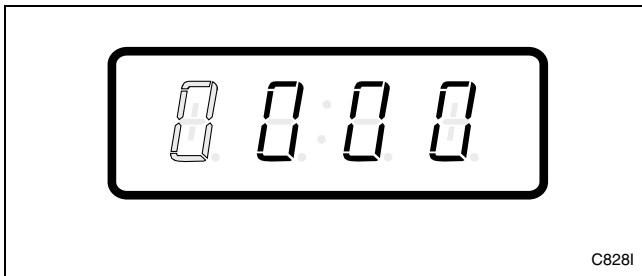

Figure 222
6. Press the START (enter) keypad to enter the fifth digit and display remaining four digits. The active digit will flash one second on and one second off. Refer to *Figure 222*.